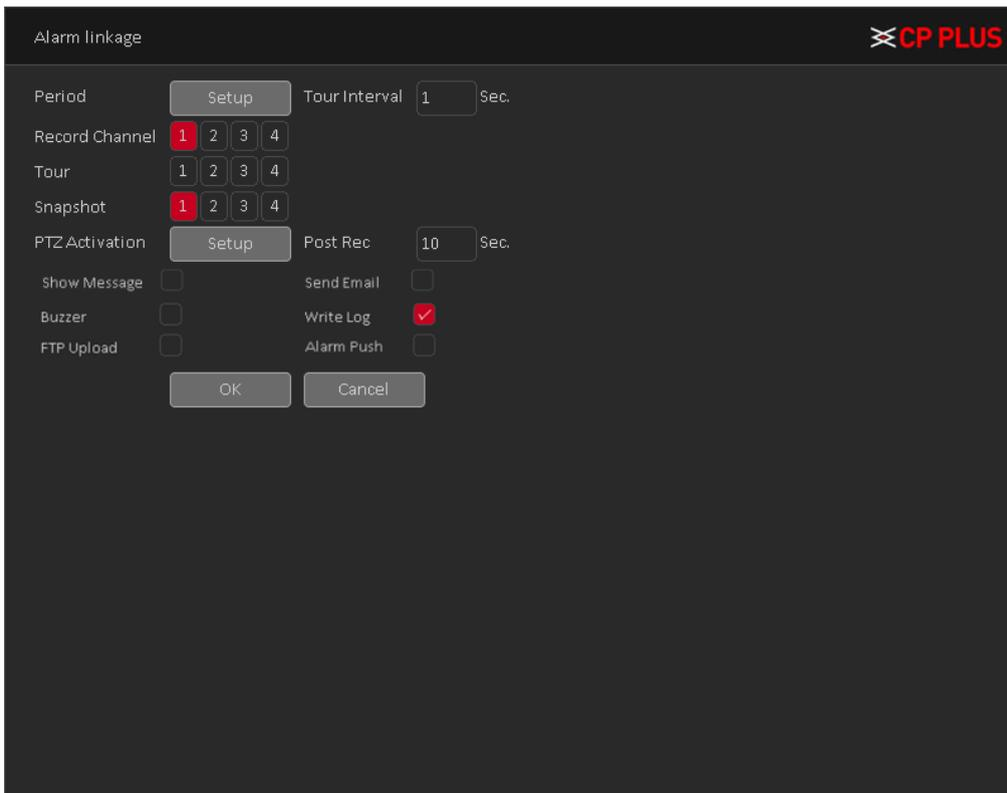

Figure 4.18
- ✓ **[Alarm Linkage]** Interface as shown in Figure 4.18. When system detect any alarm by IVS rule, then user can perform various activity through like Display tour, record Snapshot, Activate PTZ, Show message and So on.